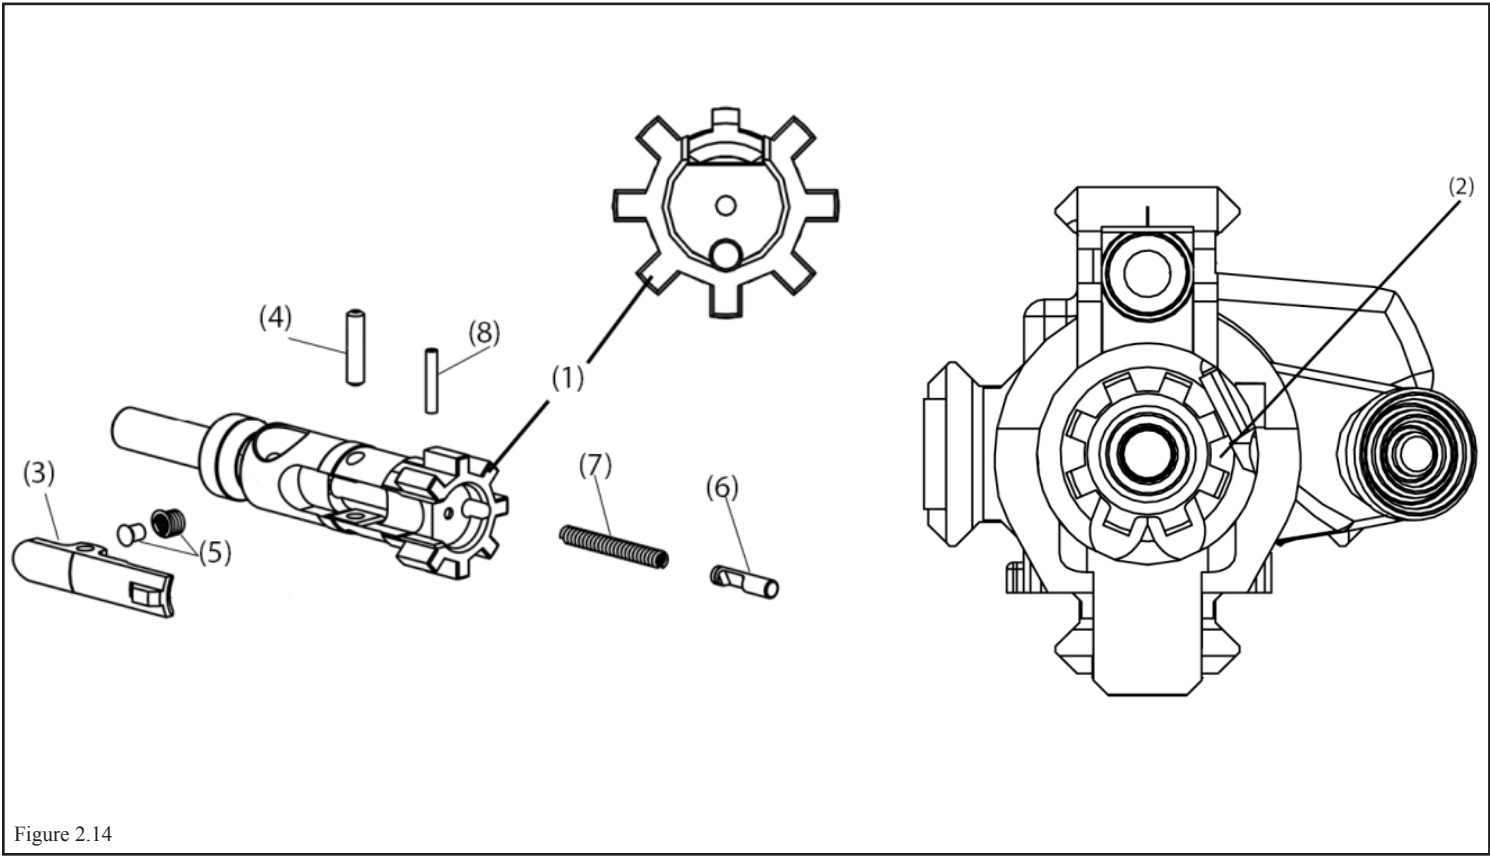

Figure 2.14
2. Ejector (Fig. 2.14, 6) stuck in bolt body	Disassemble and Clean